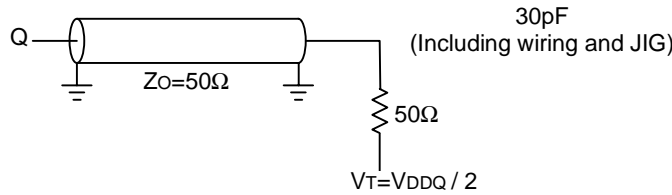

Fig.1 Output load
(1) MEASUREMENT CONDITION
- Output load Fig.1
Note25. Test conditions is specified with the output loading shown in Fig.1 unless otherwise noted.